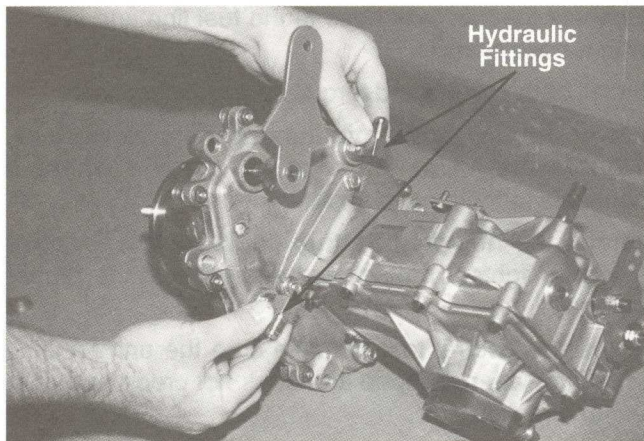

FIGURE 2.
2. Using an 11/16 wrench, remove the hydraulic fittings. This will allow easy removal of the nuts attaching the hydrostatic pump. See figure 2.